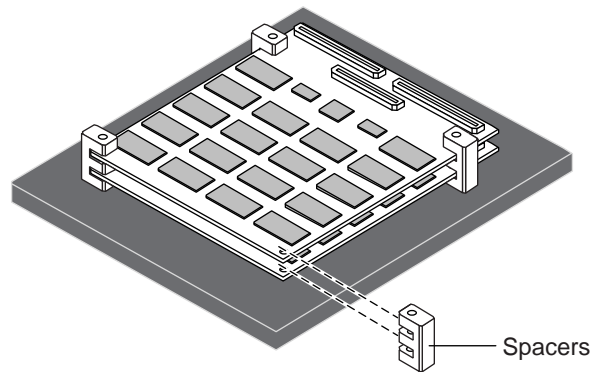

FIGURE 9 Aligning the Four Plastic Spacers with the Mounting Holes
10. Insert the four plastic spacers and align them with the mounting holes on memory Boards B and C (see FIGURE 9).